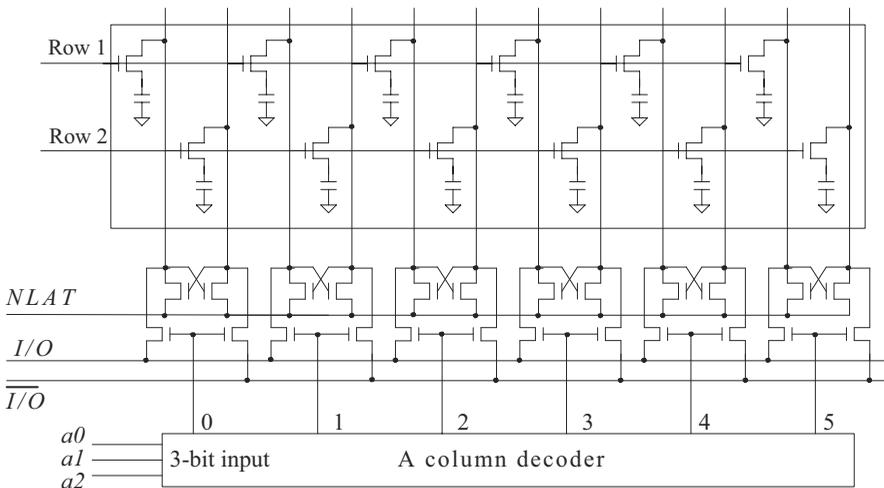

Figure 16.73 Design of a column decoder for problem 16.8.
- 16.8 Figure 16.73 shows the addition of I/O (input/output) transistors to the memory array and NSA seen in Fig. 16.17. Sketch a column decoder design using static logic. Show how the 3-bit input address is connected to each stage.